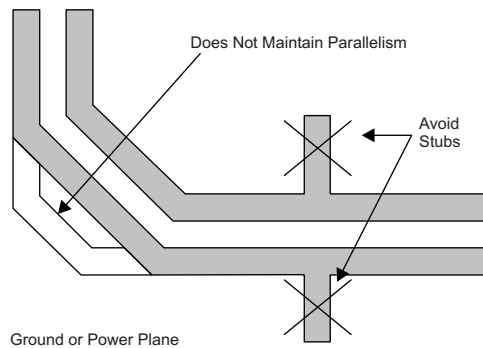

Figure 13. Differential Signal Pair – Stubs
- Avoid stubs on all signal traces, especially the differential signal pairs. See Figure 13.
- Within the pairs (for example, TD+ & TD-) the trace lengths should be run parallel to each other and matched in length. Matched lengths minimize delay differences, avoiding an increase in common mode noise and increased EMI. See Figure 13.